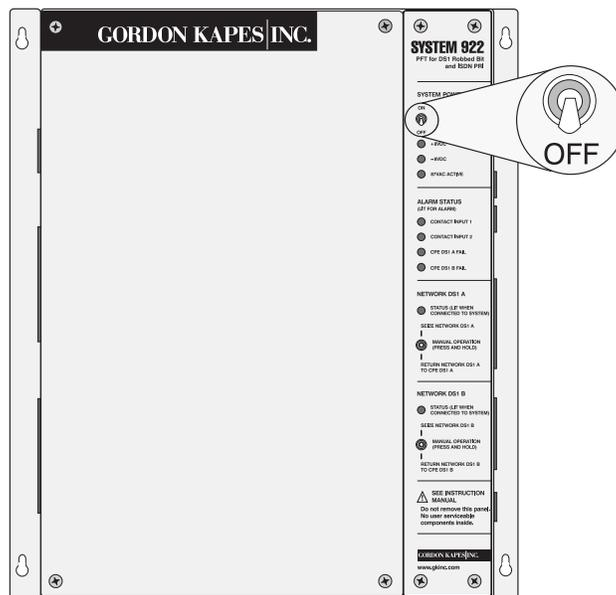

Figure 2-4. Ensure Power Switch is in OFF Position
- ❑ Ensure the power switch on the System 922 (shown in Figure 2-4) is in the Off (down) position. Leave the power switch in the Off position until you are instructed to turn it on later in this chapter.